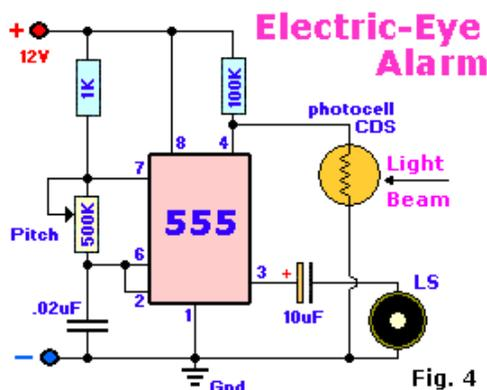

Fig. 4
**Fig. 4, Electric Eye Alarm:** The Electric-Eye Alarm is actually a similar circuit like the Dark Detector of Fig. 1. The same type of LDR is used. The pitch for the speaker can be set with the 500 kilo-ohm potentiometer. Watch for the orientation of the positive (+) of the 10uF capacitor. The '+' goes to pin 3.